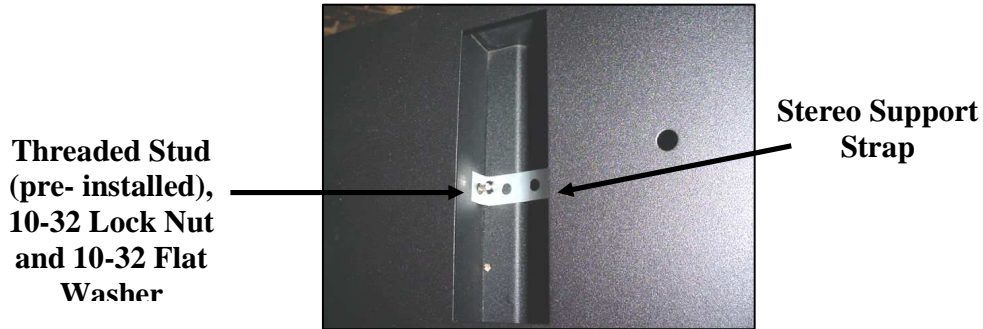

Figure 4
9. Locate (1)-10-32 Lock Nut, and (1)-10-32 Flat Washer. Attach the other end of the Stereo Support Strap to the threaded stud located on the bottom of the console by using the hardware listed in this step (Figure 4).